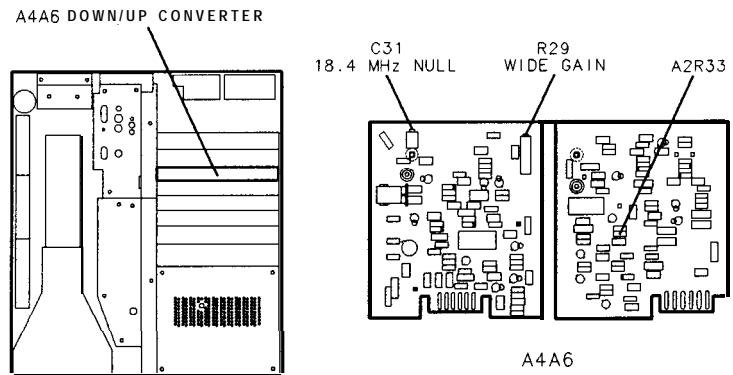

Figure 3-51. Location of Down/Up Converter Adjustments
19. Adjust A4A6A1R29 WIDE GAIN for a MKR A indication of 1.00 X, aligning the two markers on the CRT display. See Figure 3-51 for the adjustment location.